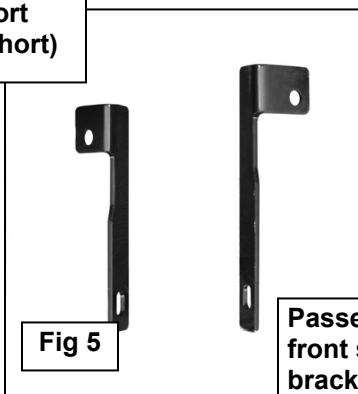

Fig 5
5. Locate the long passenger side front Support Bracket and attach it to the Bolt Plate with (1) 10mm Flat Washer, (1) 10mm Lock Washer and (1) 10mm Hex Nut, **(Figures 5 & 6)**. **NOTE:** Place Support Bracket against the front facing side of the Mounting Bracket with the bent tab facing towards the **front** of the vehicle. Snug but do not tighten hardware at this time.
8. Remove the tape covering the hole in the inner rocker panel and install (1) Bolt Plate as described in **Step 4**, **(see Figures 7 & 8)**. Select the short passenger side rear Support Bracket and attach it to the Bolt Plate with (1) 10mm Flat Washer, (1) 10mm Lock Washer and (1) 10mm Hex Nut, **(Figures 5 & 9)**. **NOTE:** Place Support Bracket against the front facing side of the Mounting Bracket with the bent tab facing towards the **rear** of the vehicle. Repeat **Step 6** to attach the lower end of the Support Bracket to the Mounting Bracket, **(Figure 9)**. Snug but do not tighten hardware at this time